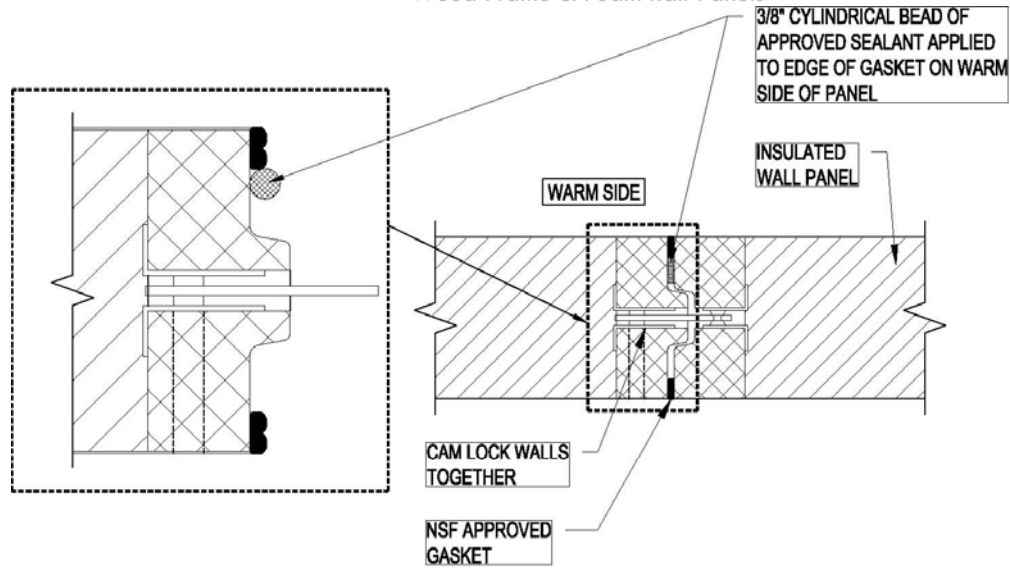

fig. 14: SEALANT/CAULK REQUIREMENTS - INDOOR LOW TEMP °F
- All Freezer panel joints **MUST** be caulked with 3/8" cylindrical bead of butyl caulk at all wall to wall joints, ceiling to ceiling joints, wall to floor joints and wall to ceiling joints. Apply butyl caulk on the interior of the joint on the warm side. (**fig.14**)